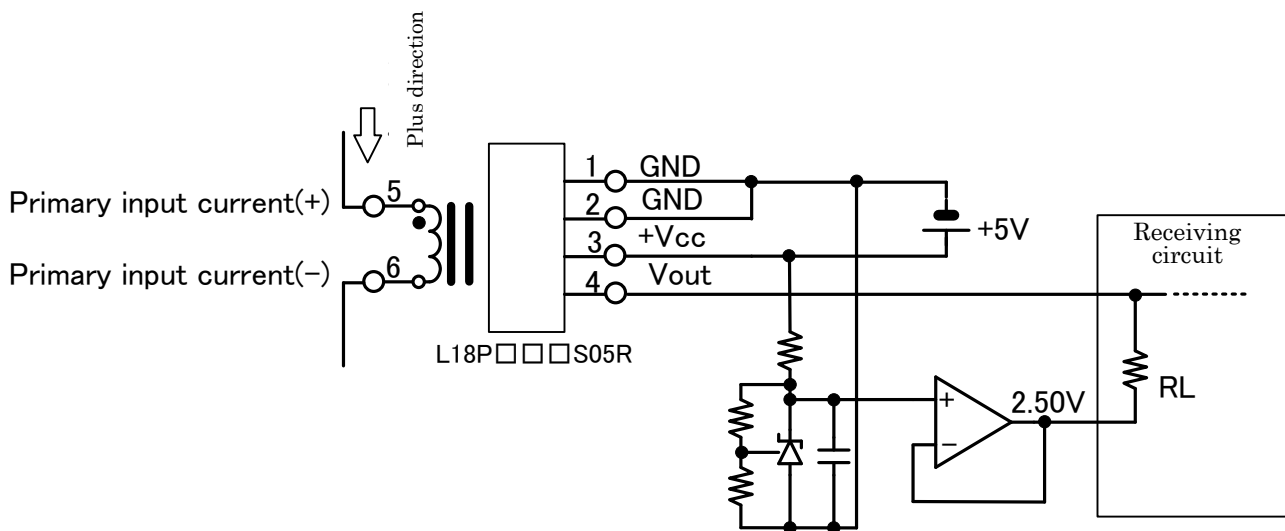

Fig. 7: L18P□□□S05R Standard circuit
□ Description of Fig. 7
This current sensor converts measured current into a voltage. The output voltage V_{out} (4) in Fig. 7 is output on the basis of the 2.50V potential. When the current to be measured is 0, V_{out} (4) = 2.50V. When the current to be measured is in the plus direction ((5) \Rightarrow (6)), V_{out} (4) becomes 2.50V + (voltage converted from the measured current). When the current to be measured is in the minus direction ((6) \Rightarrow (5)), V_{out} (4) becomes 2.50V – (voltage converted from the measured current).
$R_L = 10 \text{ k}\Omega$ in Fig. 7 is the equivalent resistance of the receiving circuit of the current sensor output V_{out} (4). Connect between V_{out} terminal (4) and reference potential (2.50V).